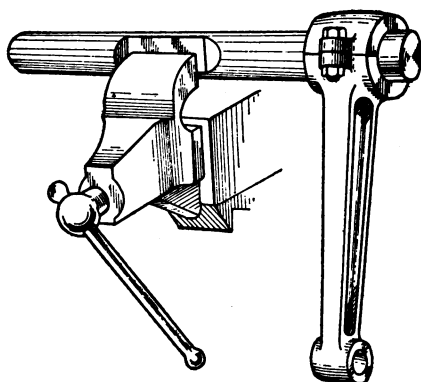

Fig. 65. Standard Mandrel Method of Lapping Big-End Bearings of Connecting Rods
*Mandrel for Lapping.* In order to give the connecting-rod bearings the best possible surface, a mandrel should be used to lap them in. This is the equivalent of running in. The rod, with bearings in place, is put on the mandrel, and the bolts tightened a little; then it is worked back and forth, until the flattening down of the surface will allow more tightening of the bolts. This is continued until, with a mandrel the exact size of the crankpins, the bolts can be pulled up dead tight. Then the rod is removed; it is finished. Such a mandrel, shown in Fig. 65, is usually a piece of steel turned up on one end to the exact size of the crankpin, with a flat spot machined in the other end to allow holding in the vice. By making it perfectly straight, a try square against the mandrel will show the correctness of the rod. On the other hand, if the outer end be made with a very slight taper, it is easier to work the rod on and off and easier to inspect the inside surface without unbolting.